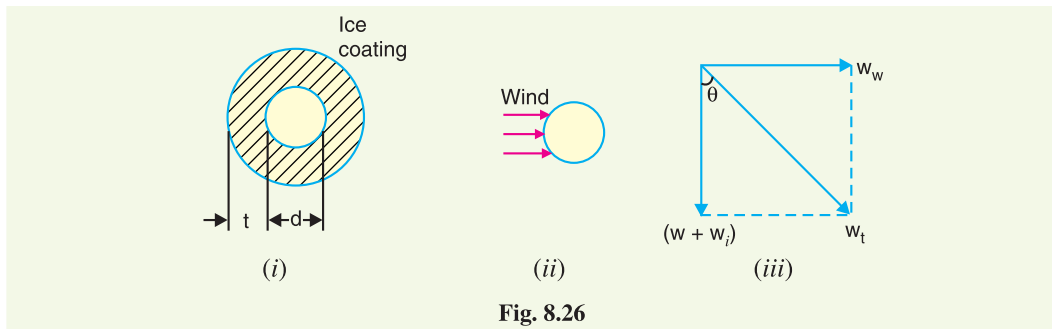

Fig. 8.26
**Effect of wind and ice loading.** The above formulae for sag are true only in still air and at normal temperature when the conductor is acted by its weight only. However, in actual practice, a conductor may have ice coating and simultaneously subjected to wind pressure. The weight of ice acts vertically downwards *i.e.*, in the same direction as the weight of conductor. The force due to the wind is assumed to act horizontally *i.e.*, at right angle to the projected surface of the conductor. Hence, the total force on the conductor is the vector sum of horizontal and vertical forces as shown in Fig. 8.26 (iii).